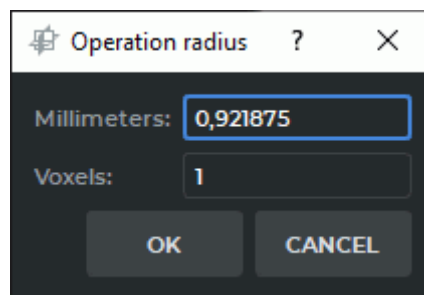

Figure 6.30: Operation radius dialog box
6. In the dialog box (Fig. 6.30), set the operation radius in millimeters or voxels.